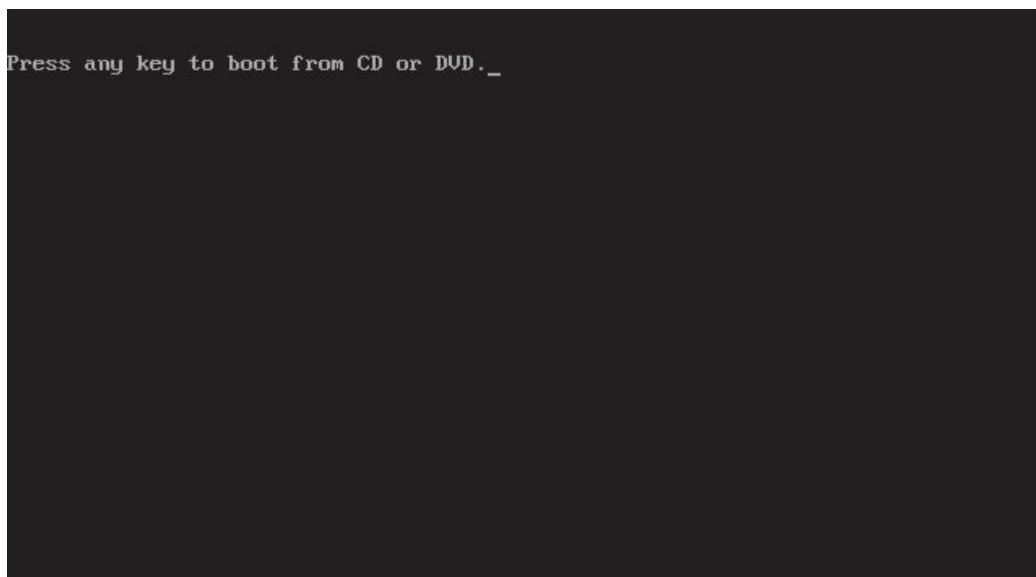

Figure 8.4
- When the system starts up, watch for the message “Press any key to boot from CD or DVD.” Please see Figure 8.4.